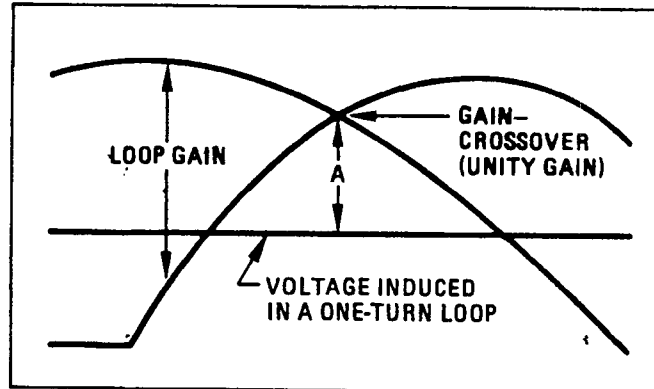

Figure 5-15.
6. Press the single sweep key. Check that the gain-crossover frequency is 20 ± 2 kHz. If the gain-crossover frequency is not correct, A3A9A4R20 must be changed to set the correct frequency; otherwise, this adjustment is complete. See figure 5-15.